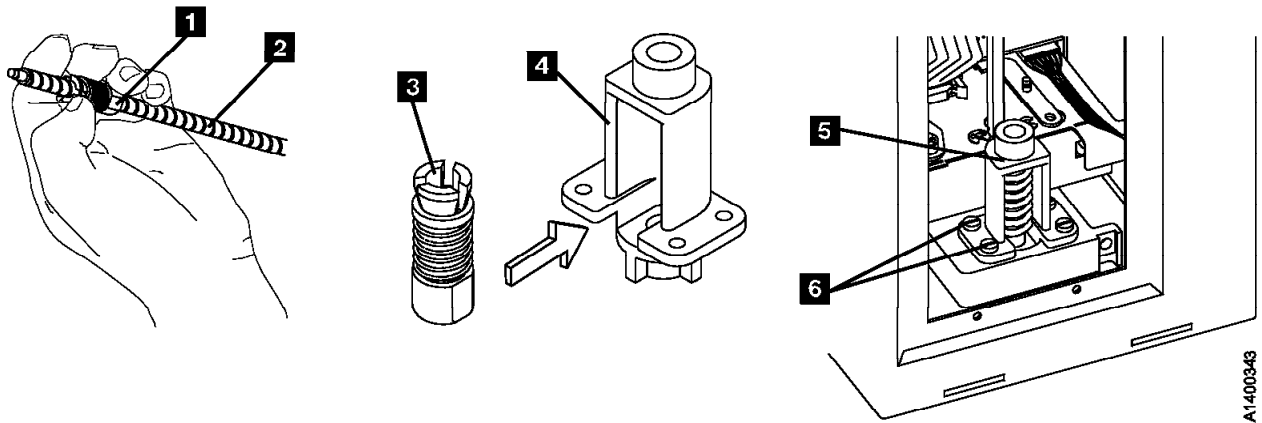

Figure 288. Leadscrew, Nut and Retainer
1. See Figure 288 on page LOC*CAR-16. If a new leadscrew assembly is being installed, it will be necessary to remove the nut from the new leadscrew and install it in the new retainer before the retainer is installed in the ACF.